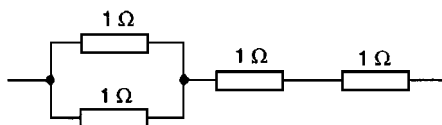

Figure 5.19
- (d) **Two in parallel, in series with two in series** (see Fig. 5.19), since for the two in parallel